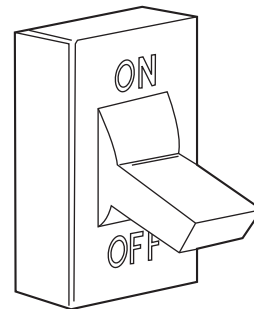

Fig. 18 – Turn Off Electrical Supply
3. Turn off electrical supply to the furnace (see Fig. 18).